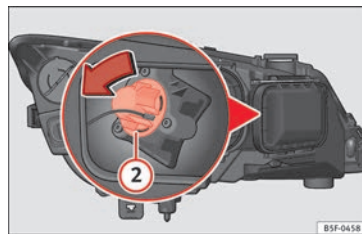

Fig. 107 Turn signal bulb.
- Turn the bulb holder » Fig. 107 ② anti-clockwise and pull.